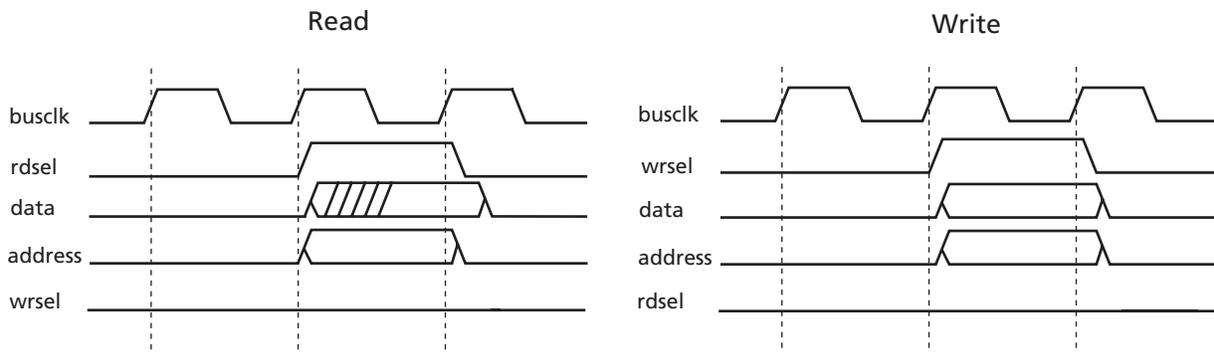

Figure 4 • Triscend TE5 CSI Bus Read and Write Operations
- In a Triscend design, the bus is hidden from the designer and only the bus access primitives can be used to create a connection. These are not synthesizable and must be instantiated. A small amount of additional address decoding or other bus interface logic is normally needed. Waveforms for typical read and write operations are illustrated in Figure 4.